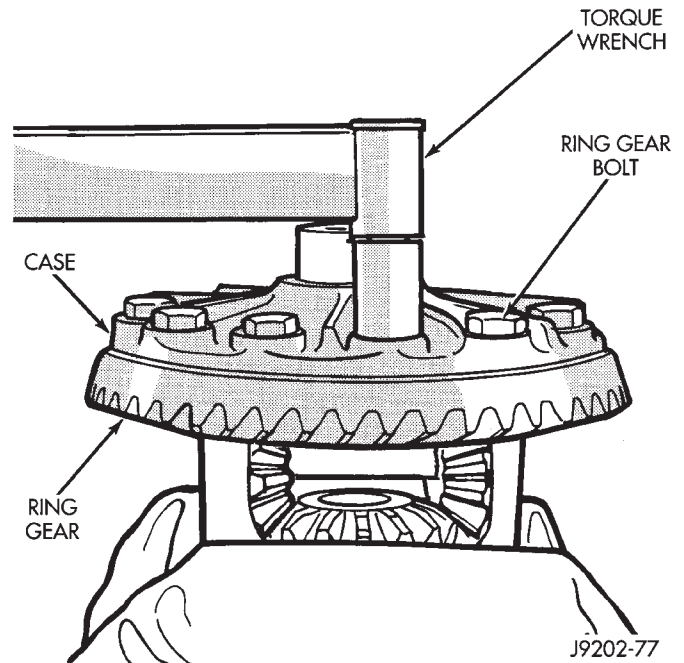

Fig. 49 Ring Gear Bolt Installation
- (1) Invert the differential case and start two ring gear bolts. This will provide case-to-ring gear bolt hole alignment.
- (2) Invert the differential case in the vise.
- (3) Install new ring gear bolts and alternately tighten to 95–122 N·m (70–90 ft. lbs.) torque (Fig. 49).
- (4) Install differential in axle housing and verify gear mesh and contact pattern.